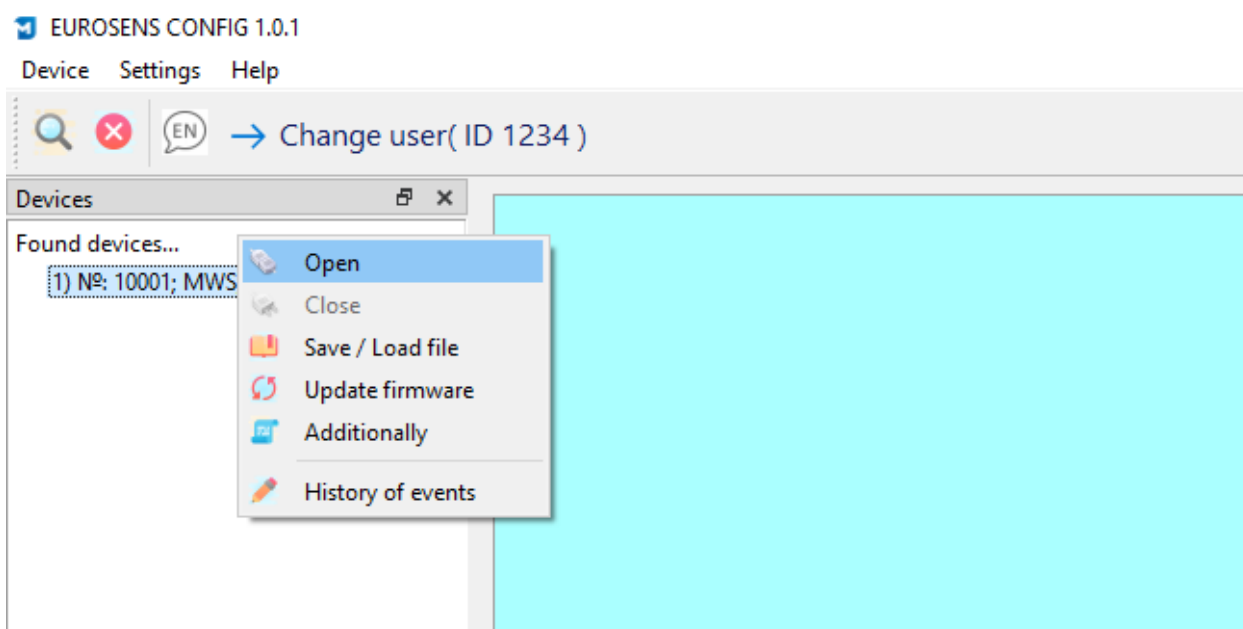

Fig. 11. Sensor operation menu
5) Right-click the mouse to open the context menu (Fig. 11).